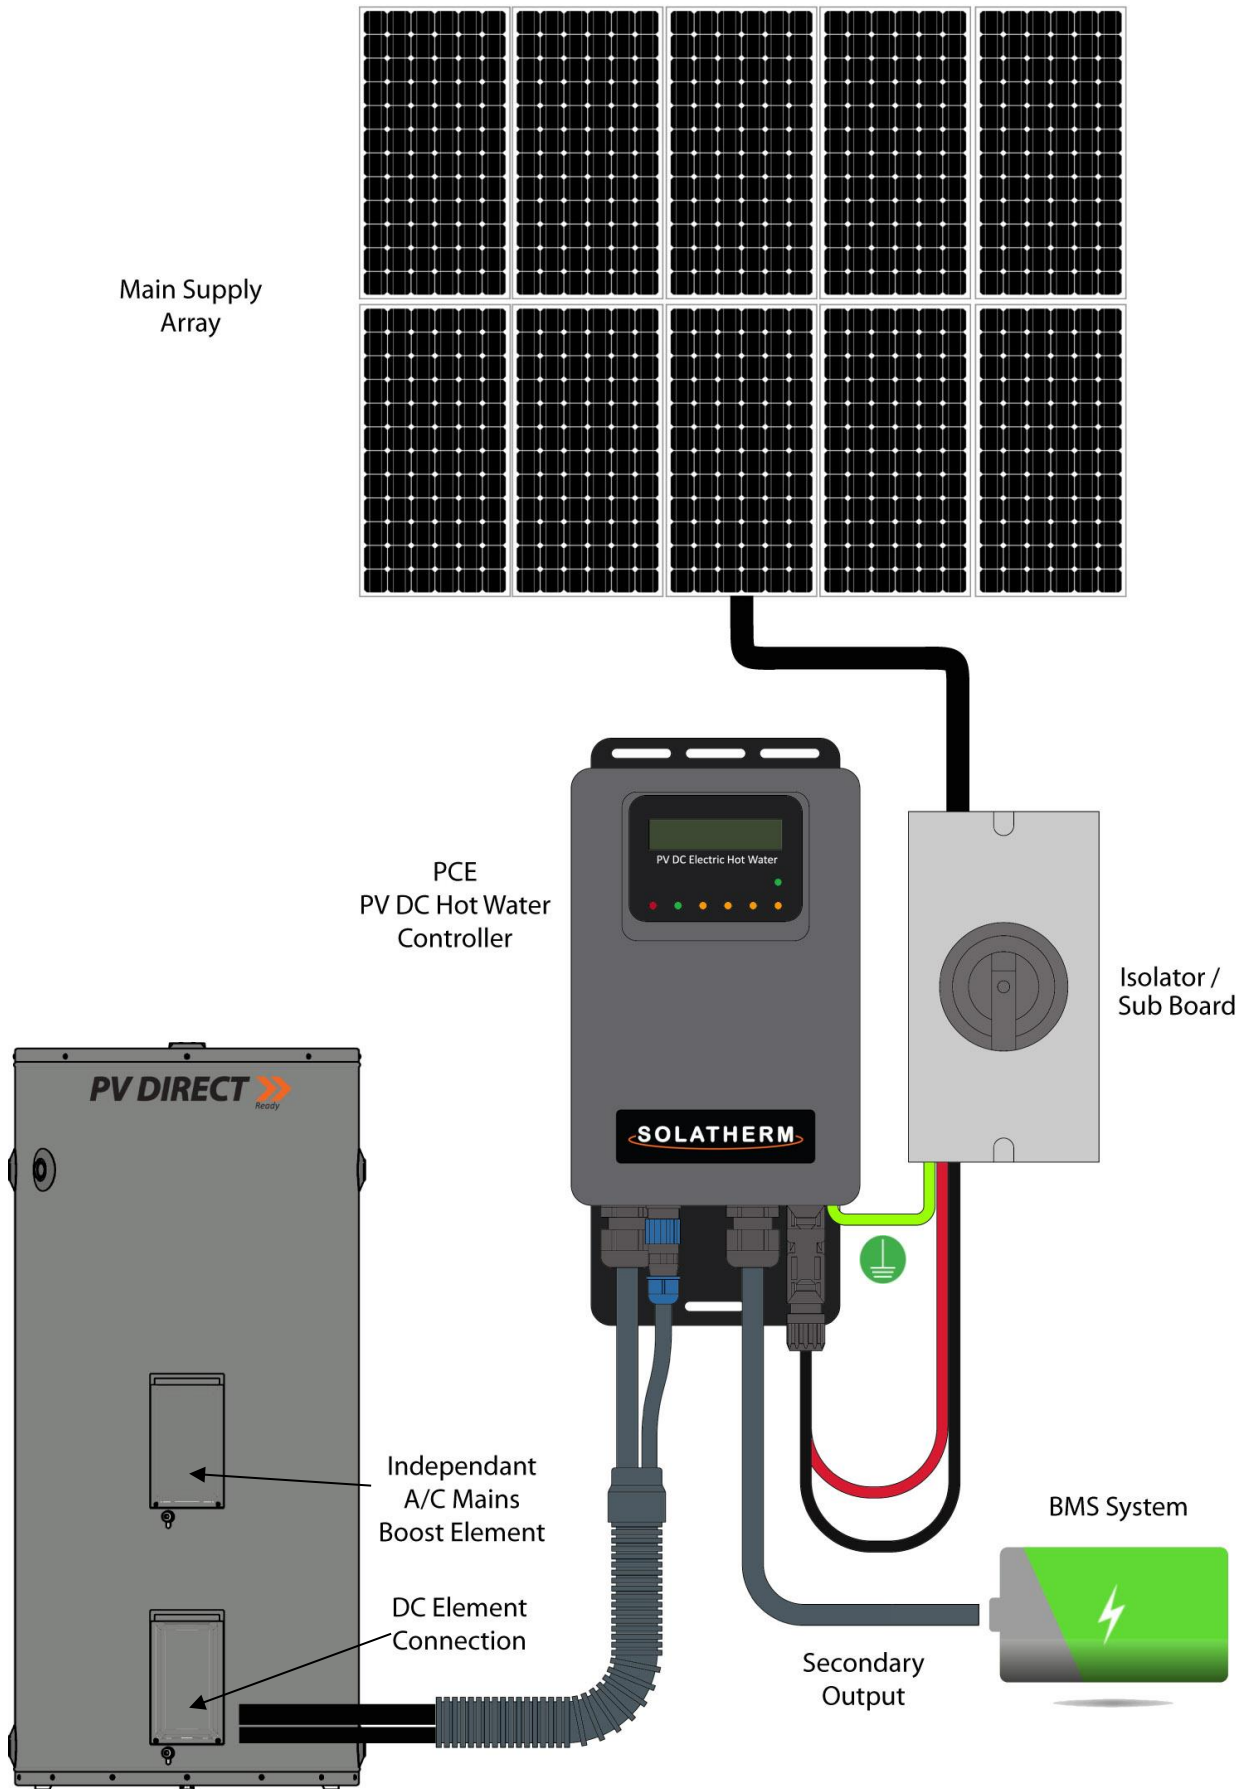

Figure 2.
1. Remove lower DC element cover (figure2).
5. Ensure PVOTC which is spring located onto vessel surface has not been disturbed during installation and is sitting in place and secure. Re-install DC element cover (Figure 2).